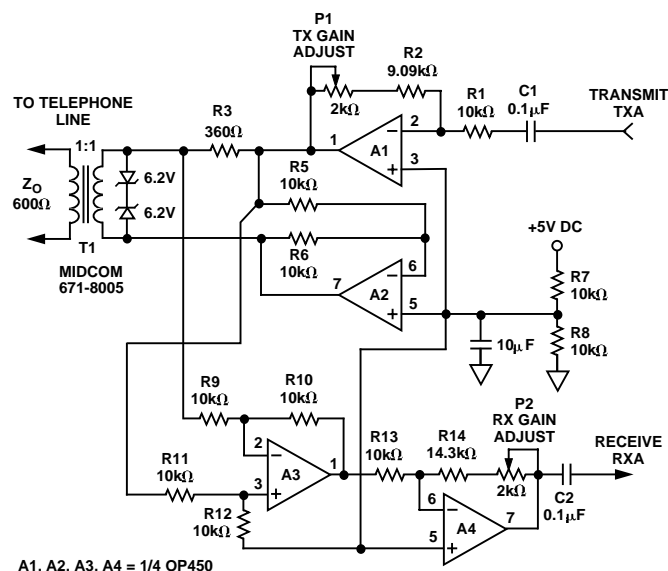

Figure 39. A Single-Supply Direct Access Arrangement for Modems
Figure 39 illustrates a +5 V transmit/receive telephone line interface for 600 Ω systems. It allows full duplex transmission of signals on a transformer coupled 600 Ω line in a differential manner. Amplifier A1 provides gain which can be adjusted to meet the modem output drive requirements. Both A1 and A2 are configured so as to apply the largest possible signal on a single supply to the transformer. Because of the OP450's high output current drive and low dropout voltages, the largest signal available on a single +5 V supply is approximately 4.5 V p-p into a 600 Ω transmission system. Amplifier A3 is configured as a difference amplifier for two reasons: (1) It prevents the transmit signal from interfering with the receive signal and (2) it extracts the receive signal from the transmission line for amplification by A4. Amplifier A4's gain can be adjusted in the same manner as A1's to meet the modem's input signal requirements. Standard resistor values permit the use of SIP (Single In-line Package) format resistor arrays. Couple this with the OP450 14-lead TSSOP or SOIC footprint and this circuit offers a compact, cost-effective solution.